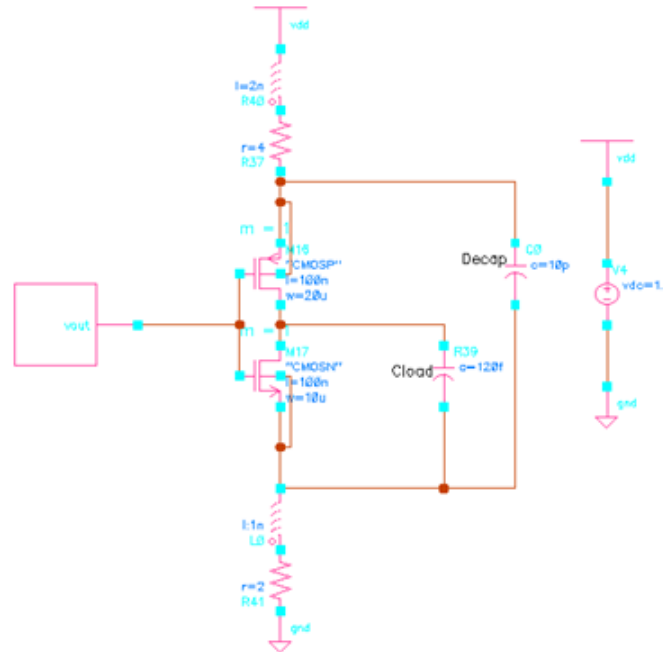

Figure 28 Finite Supply Impedance Simulation
- In digital circuit design, there are many switching signals. Finite supply impedance causes switching output noise. Build the circuit shown in Figure 28 with supply inductance and decoupling capacitance. Use Case 1: CLK (i.e. 1010 pattern) and Case 2: 7-bits PRBS as the input sources. CLK frequency is set to be 2.5GHz with 20ps rise/fall time. PRBS data rate is 5Gb/s with 20ps rise/fall time. Please plot the output eye diagrams. Compare the results with the case having ideal supply (zero supply impedance by removing all parasitics).